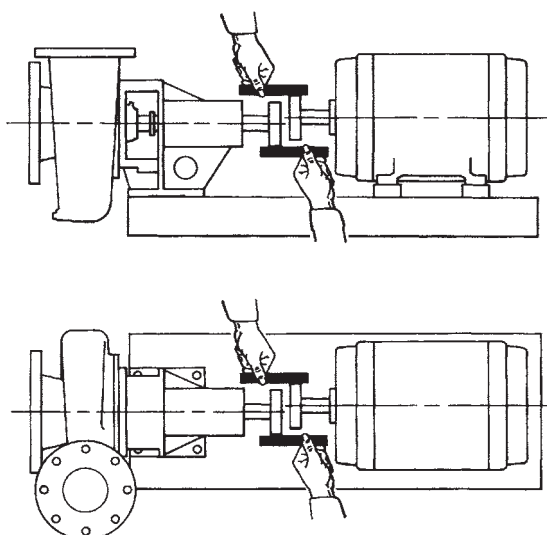

FIGURE 5a: Checking Alignment
- The pump and motor were accurately aligned at the factory, but handling during shipment usually alters this pre-alignment. Using a small straight edge and feeler gauges or a dial indicator, check for horizontal, vertical, and angular misalignment of the coupling hubs (Fig. 5a).